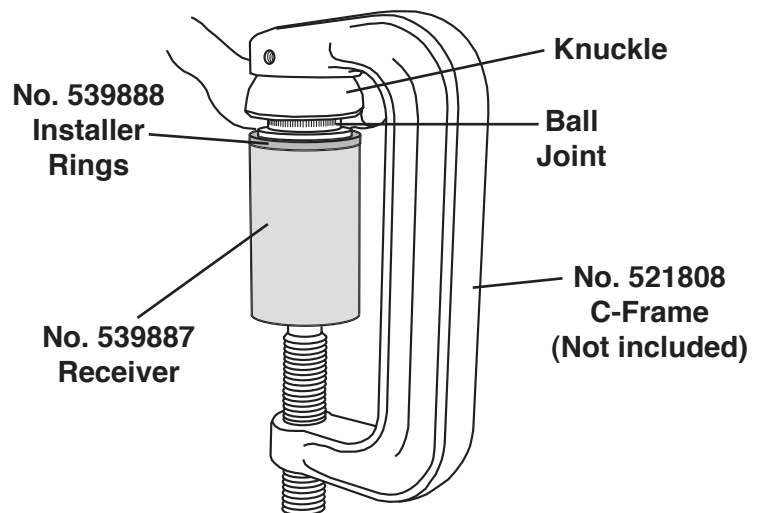

Figure 3
4. Position the receiver on the knuckle as shown in Figure 3, along with No. 521808 C-frame (not included.)